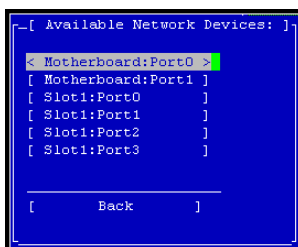

Figure 205. Selecting an Interface to Configure
1. On the Configuration Interface main menu, tab to Network TCP/IP Settings and press Enter. The Available Network Devices window opens, shown in Figure 205.